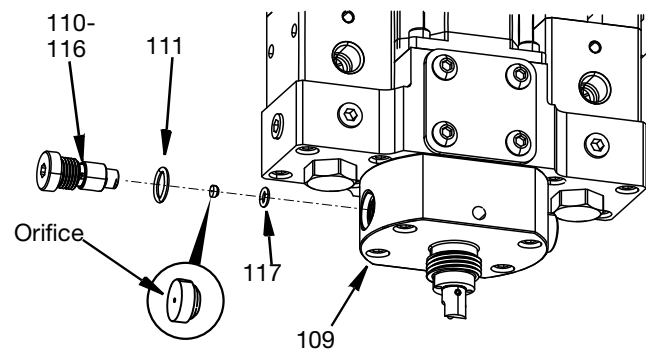

FIG. 47
3. Remove orifice and packing O-Ring (117) at the bottom of the check valve and orifice housing (109) body cavity. See FIG. 47.